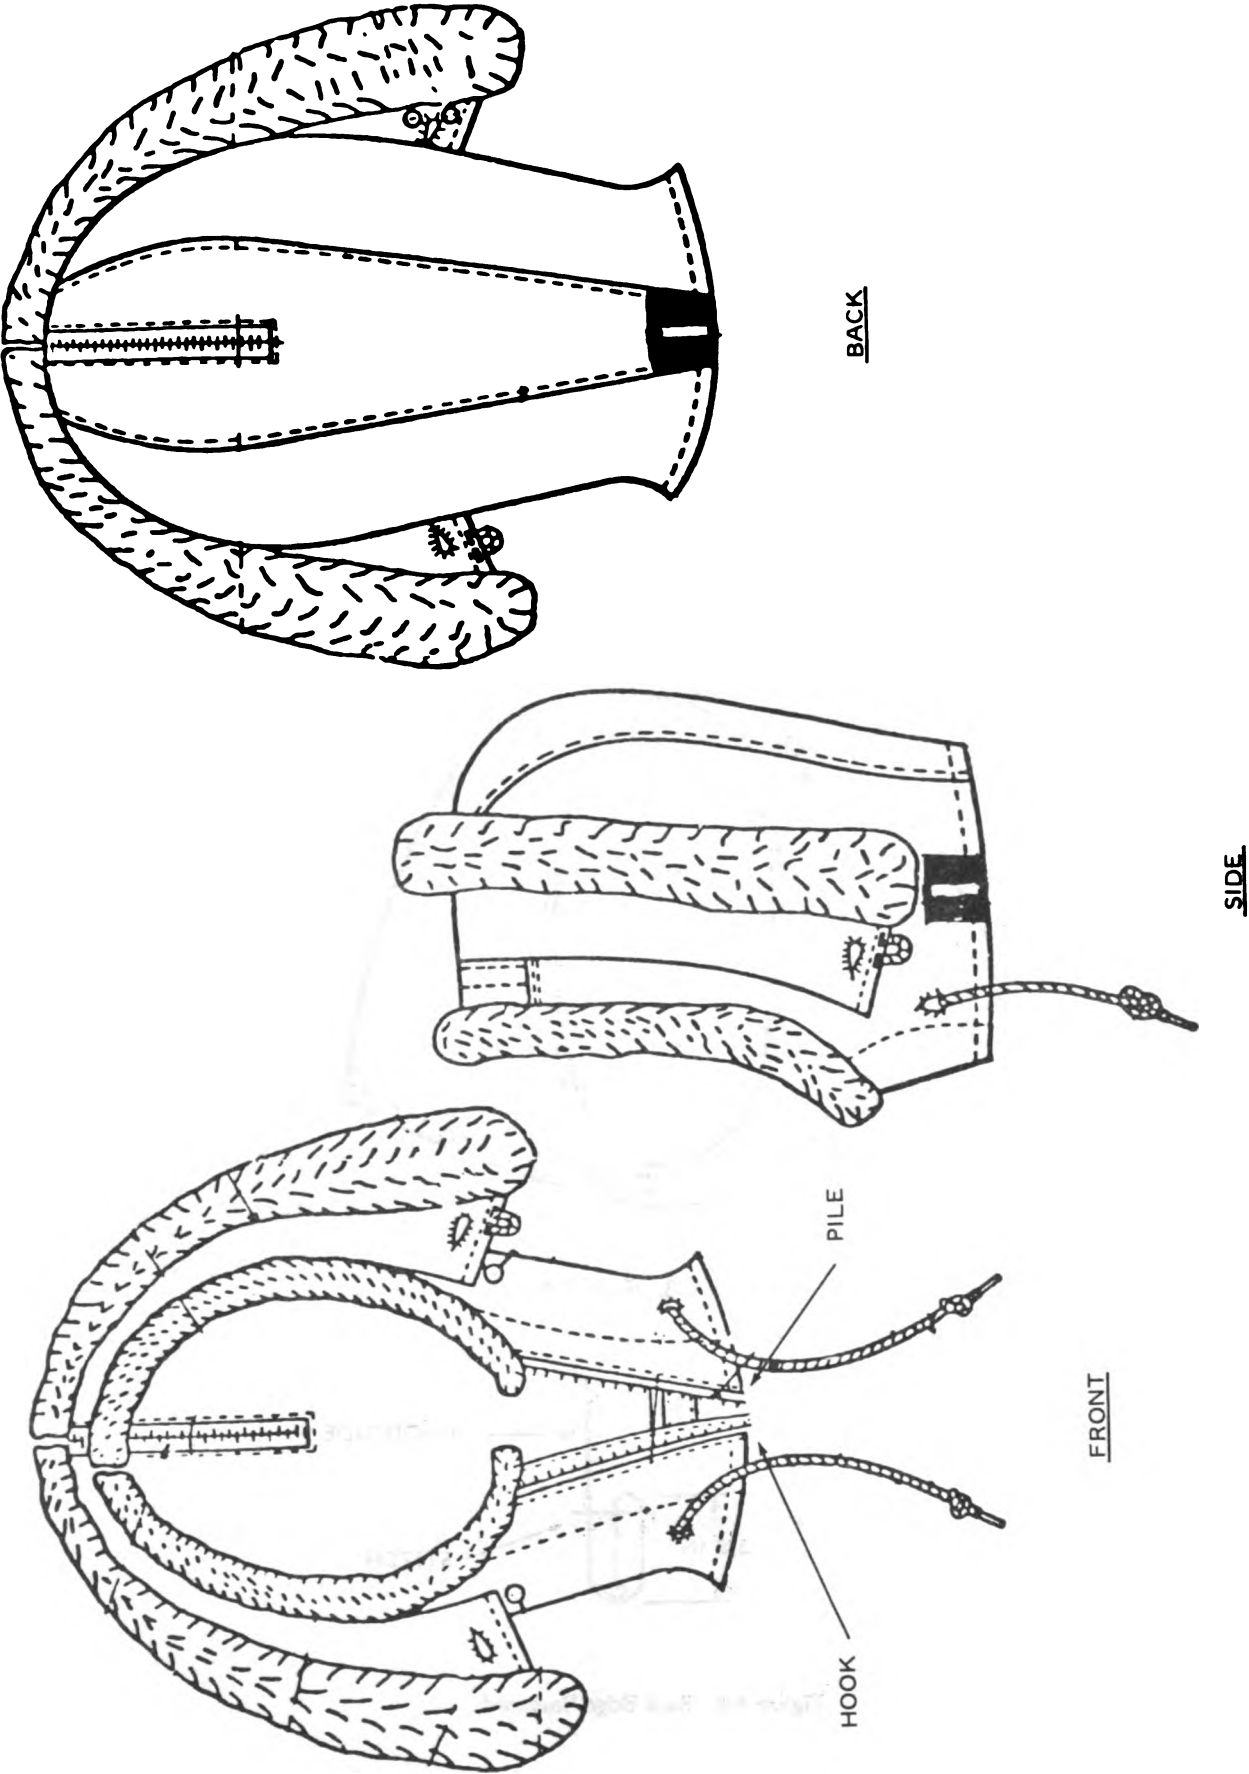

Figure 4-5. Finish Hood
- e. Use fastener tape from operation (b) for front closure. Place the hook on the flap at right side and pile on left inside and stitch on all four sides of each piece. (See figure 4-5, front view.)
- g. Place one piece of leather on the inside of the center panel flush with the bottom edge and stitch on all four sides. On the inside right and left side front  $3\frac{1}{2}$  inches from the joining center panel seam, place a piece of leather and stitch on all four sides. (See figure 4-5.)
- h. On the outside of the hood, place the other three pieces, one at each location on top at the stitch marks and stitch thru all pieces  $\frac{1}{8}$  inch from the edge and  $\frac{1}{4}$  inch in. (See figure 4-5.)
- i. Make a 1 inch cut in the leather for the button. (See figure 4-5.)